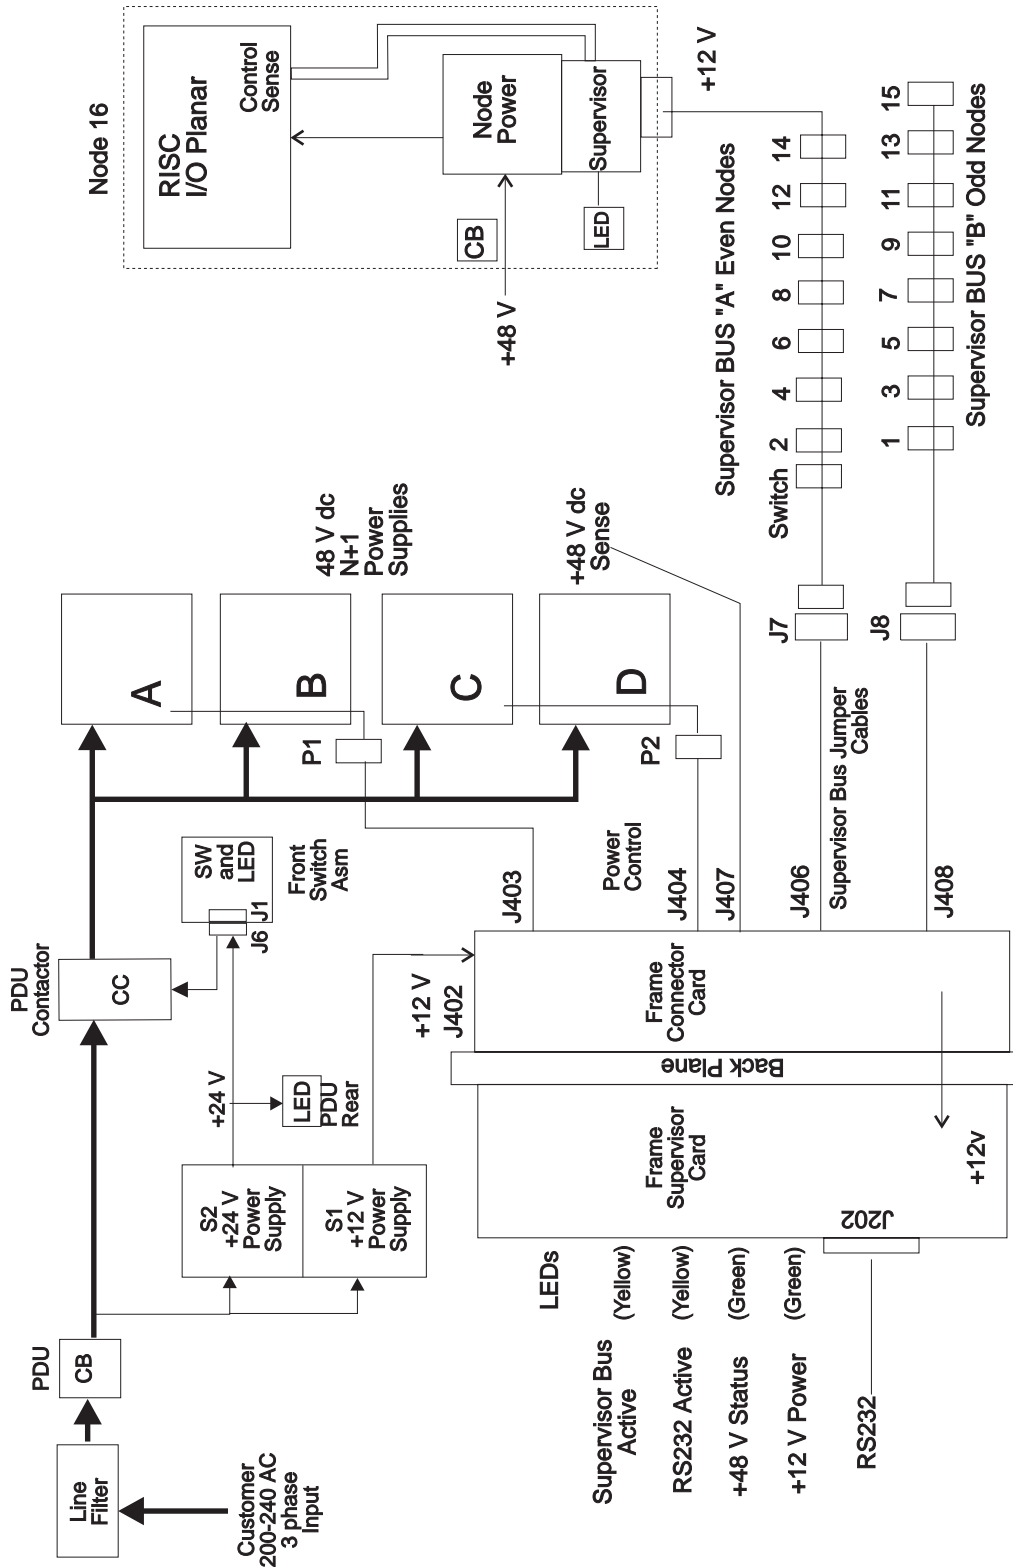

Figure 1-20. RS/6000 SP PDU Power Diagram
- Figure 1-20 on page 1-226, for a view of the RS/6000 SP frame power diagram